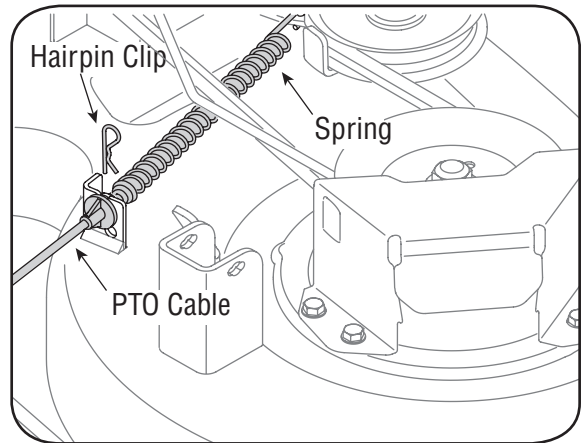

Figure 6-6
11. For models with manual pto, remove the hairpin clip that secures the PTO cable to the rear of the cutting deck. See Figure 6-6. Remove the PTO cable and accompanying spring from the cutting deck.